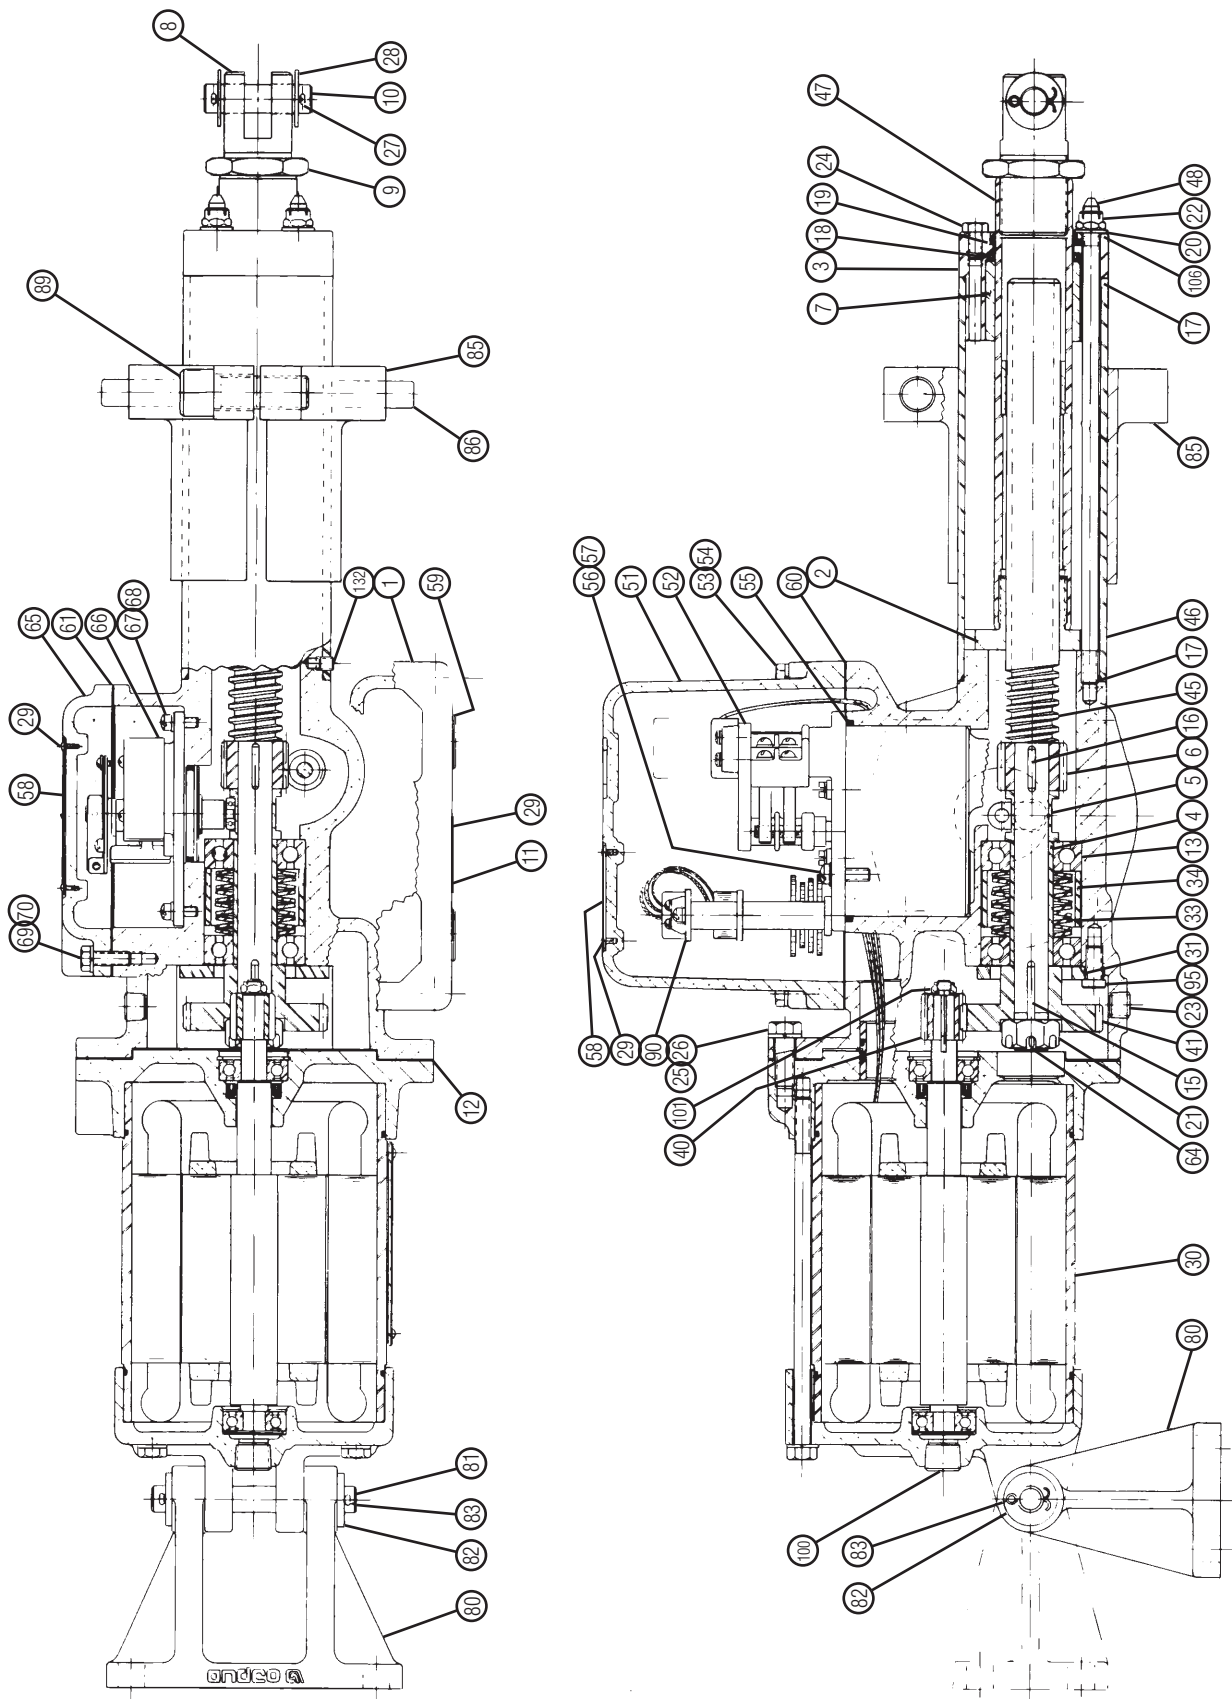

Figure 1 - Acme Screw Actuator Parts Drawing
The electric motor (30) has a pinion mounted on it's shaft. This pinion (40) engages the drive gear (41) which is mounted on the end of the drive screw (45). The drive screw has external Acme type threads and is engaged in the internal threads of the mating drive nut (2). Refer to Figure 1, page 5, and Table 1, page 6.